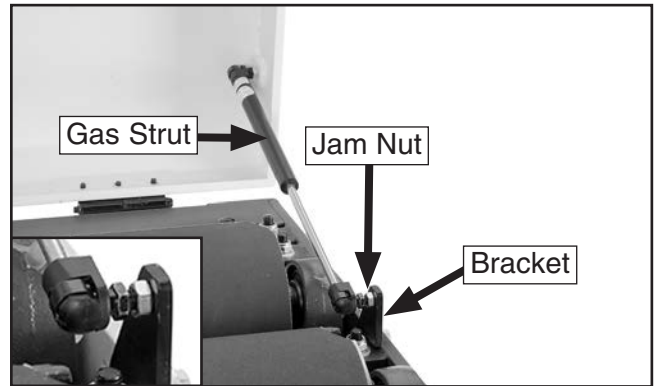

Figure 9. Gas strut installed (right side shown).
3. While an assistant holds the top cover up, install each gas strut on a bracket with a jam nut, as shown in **Figure 9**. The threaded end of each strut should be flush with the outside of the bracket.